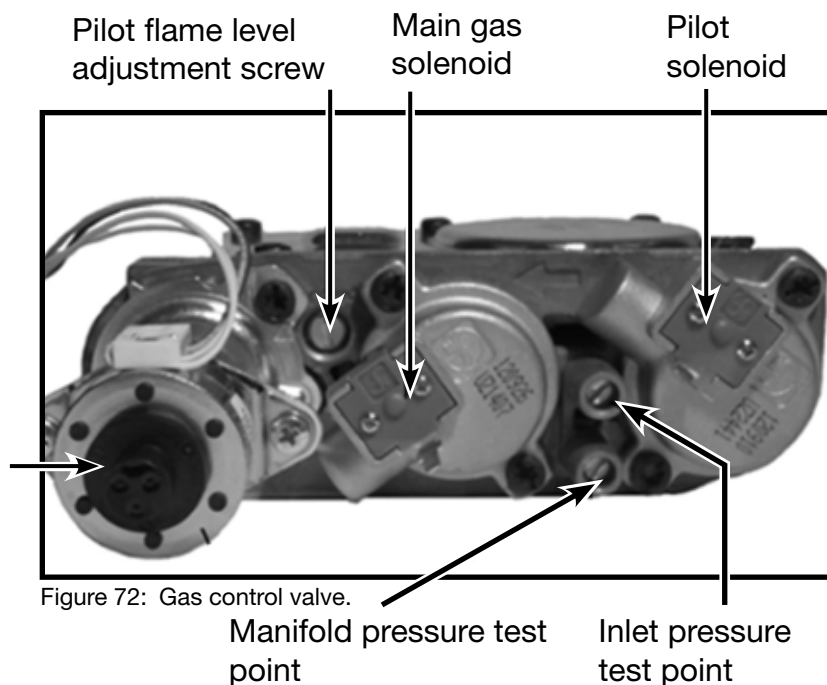

Figure 72: Gas control valve.
2. Locate the inlet and outlet test points on the valve Figure 72. After locating test ports loosen the screws within the ports using a flat-tip screwdriver.
The pilot flame level can be adjusted by turning the adjustment screw, using a flat-tip screwdriver, as seen on the valve in Figure 72.